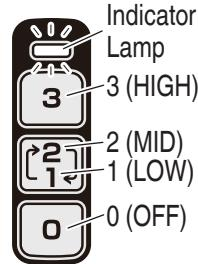

Fig. 13
2. The Indicator Lamp (Fig. 13)